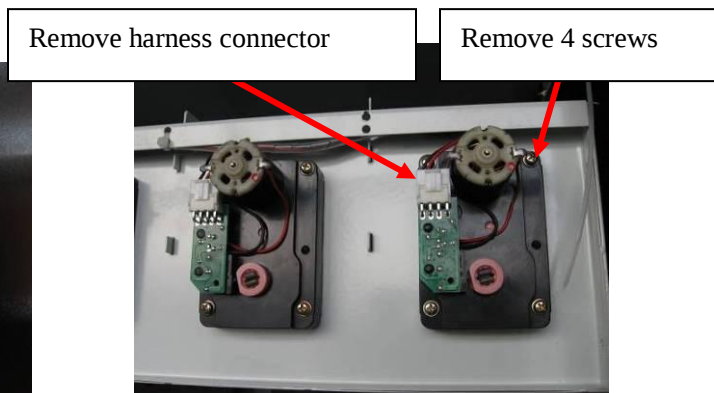

Figure 48 – Removing the motor
- c. Remove the harness connector and the 4 mounting screws (Figure 48).